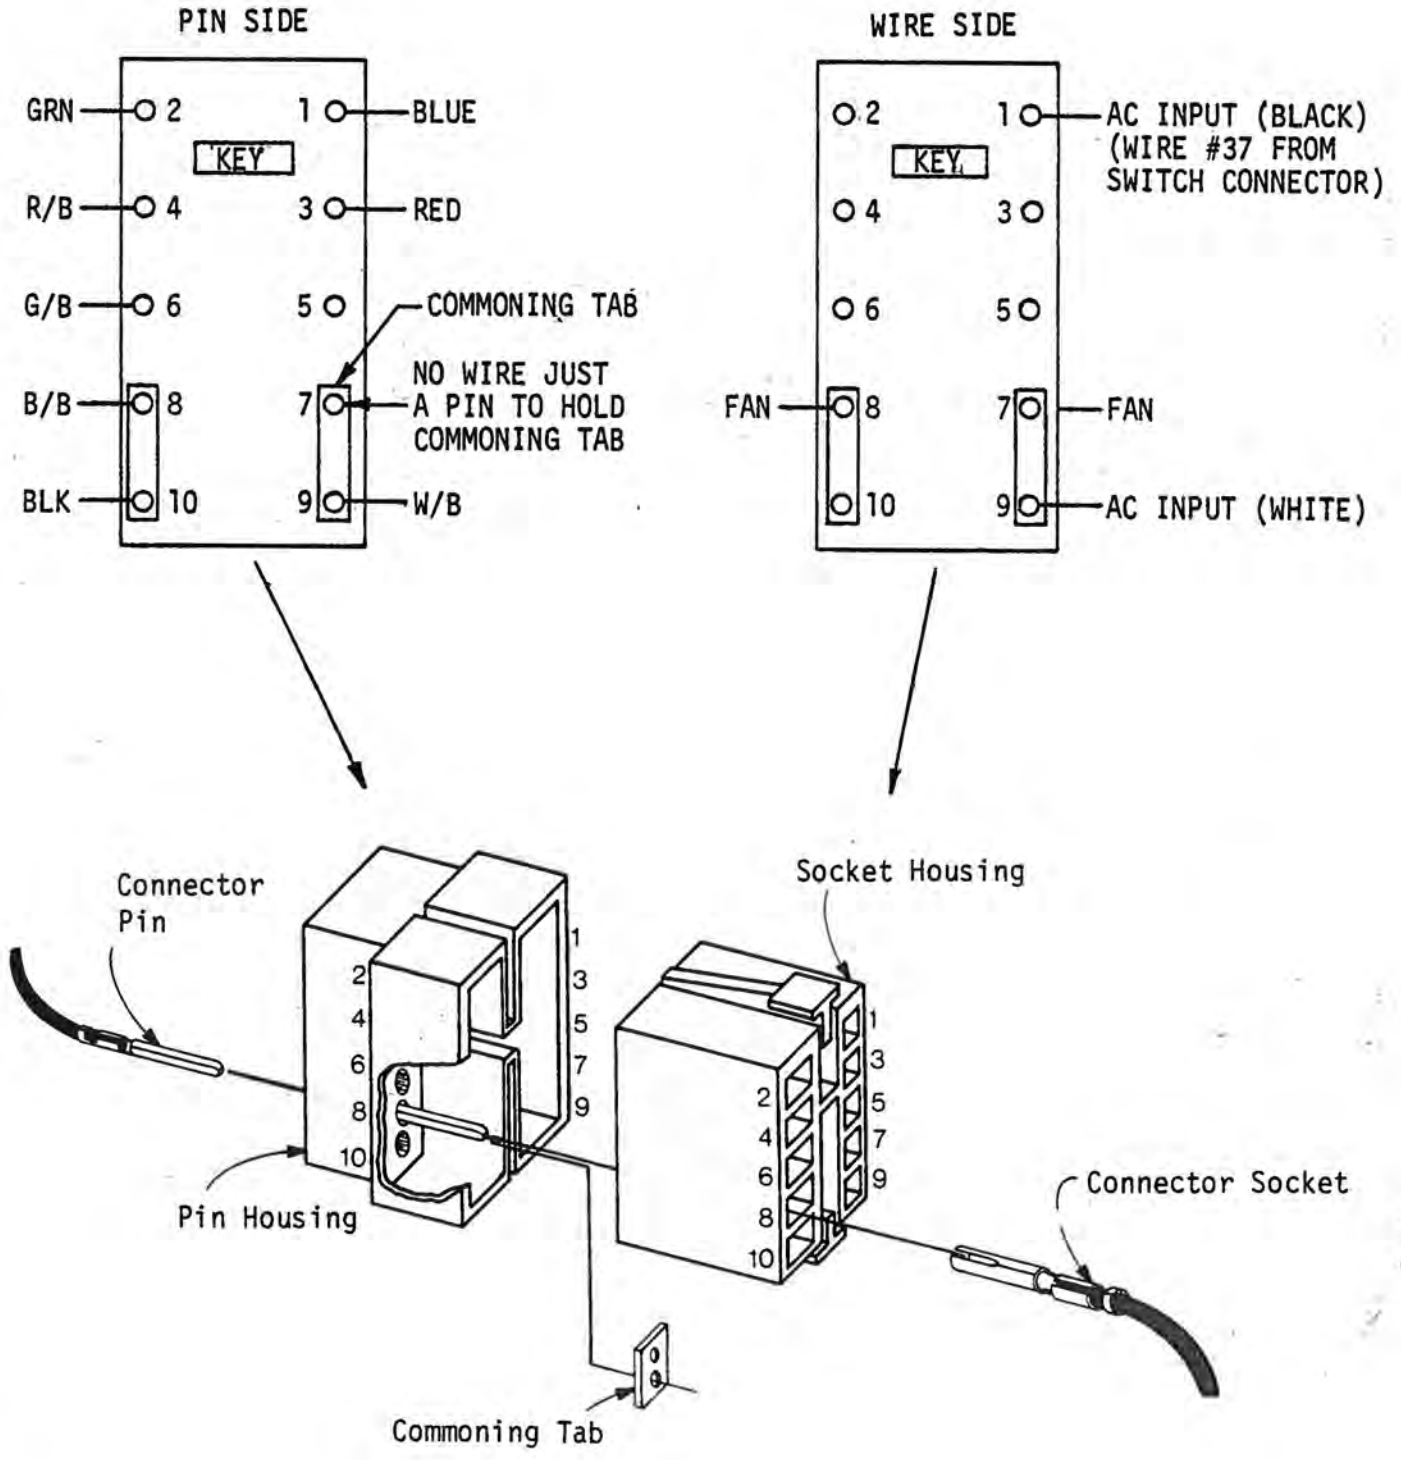

Figure 1
1. Change the wiring of the P4 connector pin housing (Figure 1) according to Table A. Place a commoning tab over pins 8 and 10 and one over pins 7 and 9. (Note that no wire is connected to pin 7. Pin 7 must be installed, however, to hold the commoning tab. The exposed end of pin 7 should be covered with a small piece of heat-shrinkable tubing or equivalent insulation.)